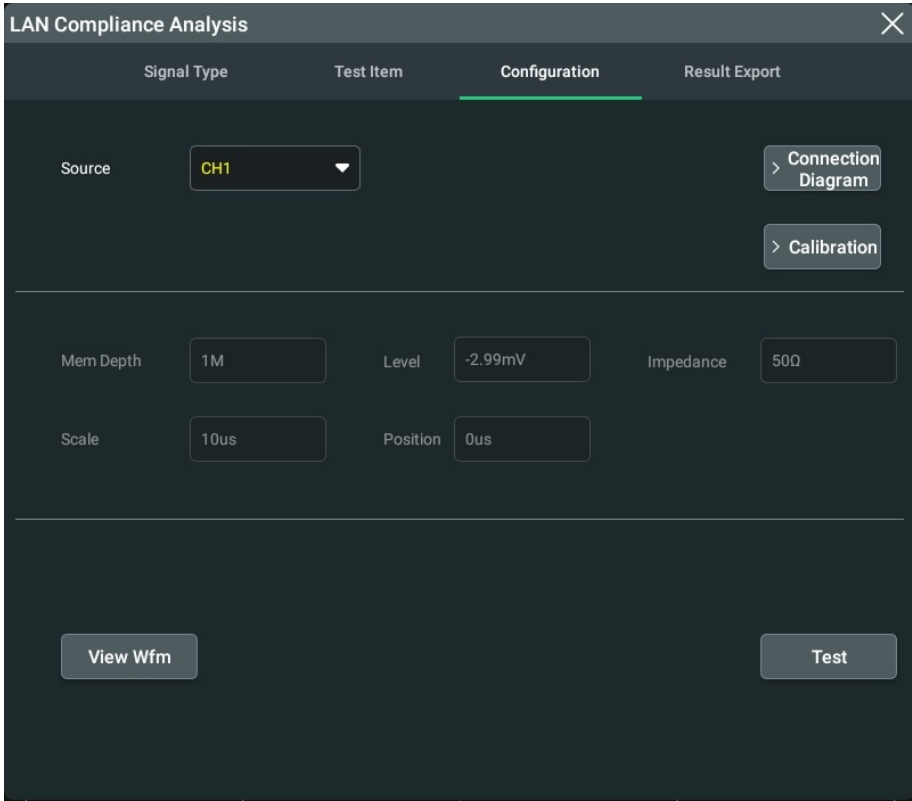

Figure 4.40 Test Configuration
4. After the specified signal type and test item are selected, the oscilloscope outputs a waveform based on the automatically set parameters such as level, scale, and impedance. Click or tap the **Configuration** tab to enter the "Configuration" menu. In this menu, you can view the parameters, as shown in Figure 4.40.